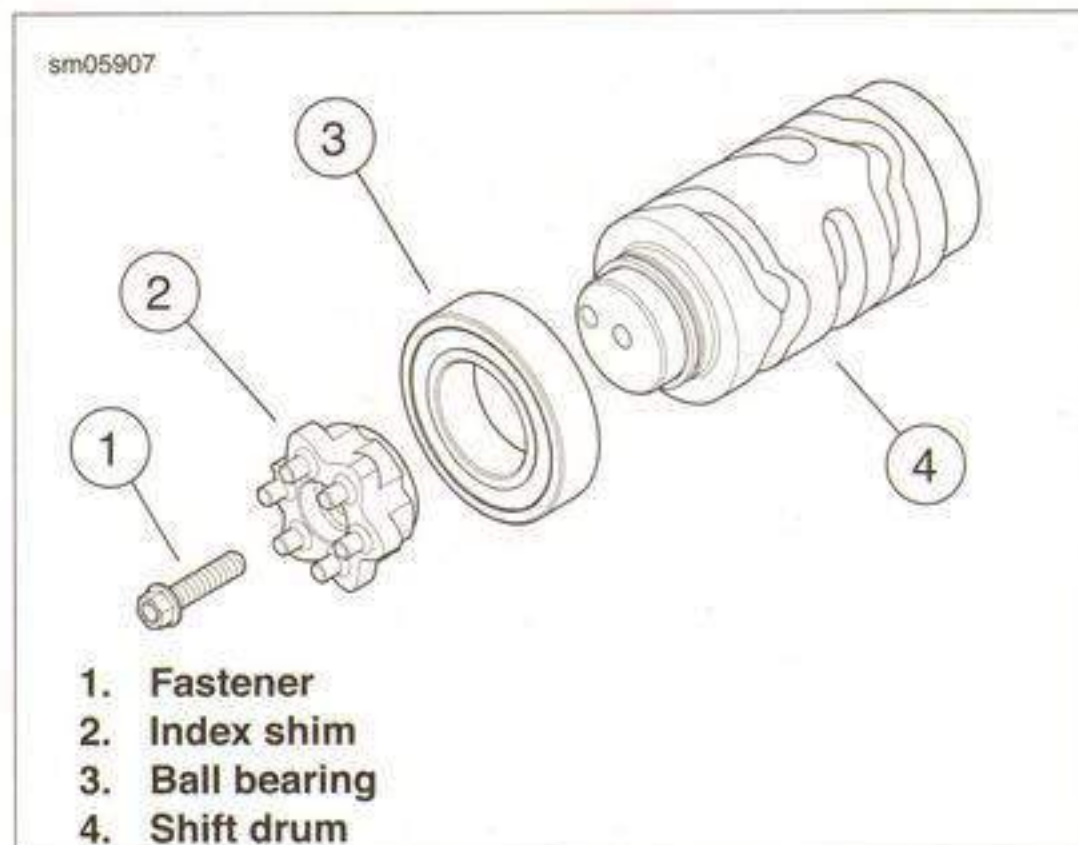

Figure 6-70. Index Shim and Shift Drum
1. See Figure 6-70. Remove fastener (1) and index shim (2).